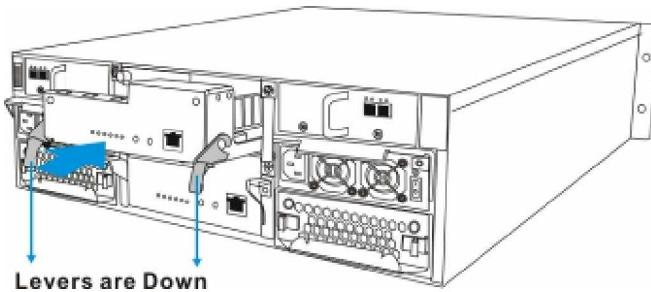

Figure 5-4: Installing the Controller Module
-  **Step 3.** *Install the controller module.* Make sure the levers at the back of the controller module are down. Align the controller module with the controller module bay at the rear of the subsystem. Gently slide the controller module in. (See *Figure 5-4*)